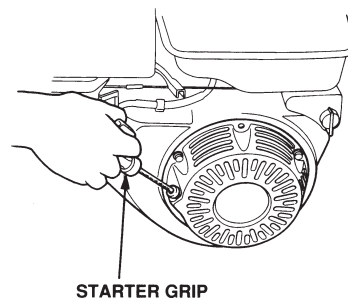

Figure 15. Starter Grip
6. Pull the **starter grip** (Figure 15) lightly until you feel resistance, then pull briskly. The drum should be rotating at this time.